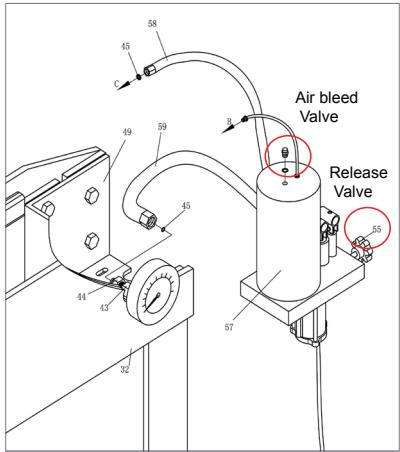
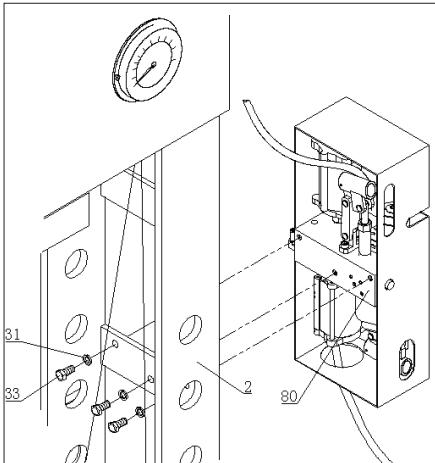

Fig.07
Fig.09
- Move the pump assy, Fig.07 (CP86750), Fig.09 (CP86100),to the outside of the post, use bolt and washer which dismantled just now to twist tight on the right connecting plate.
- Open the release valve, by turning it in an anti-clockwise direction, and open air bleed valve, Fig.07.
- Close the release valves, Fig.07, by turning it clockwise until it is firmly closed.